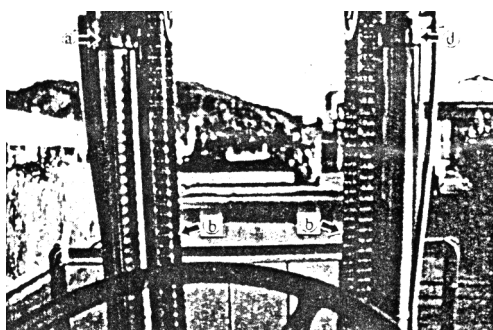

Fig.10-1
(2) Make the mast assembly tilt backward, adjust the pulling force of lift chains and let the tightness of lift chains be equal at b point (See Fig.10-1).